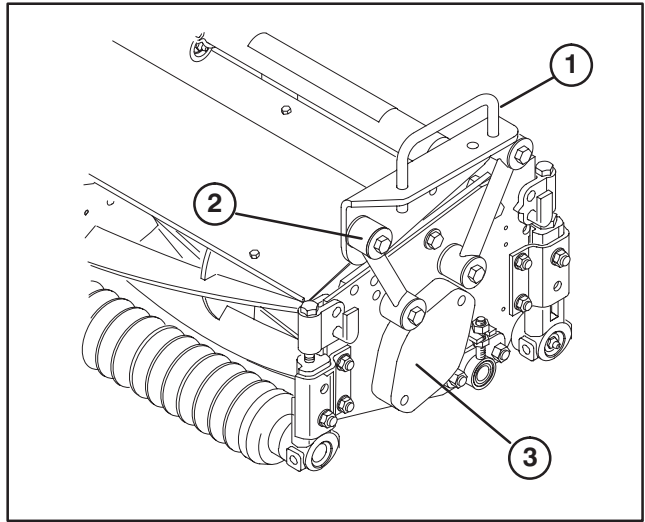
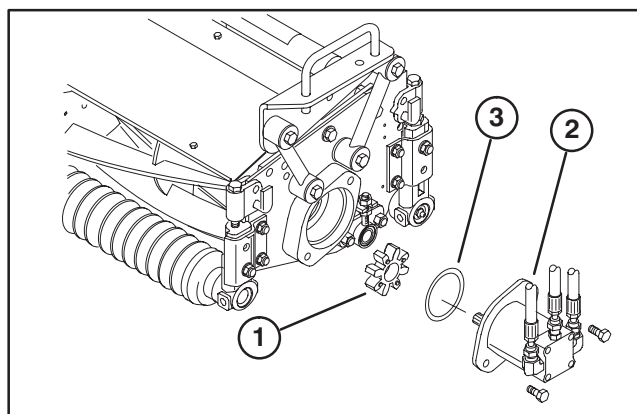

Figure 5
Figure 9
MOUNT CARRIER FRAMES TO CUTTING UNITS (Fig. 5)
3. Secure each mounting link to carrier frame with a 3/8-16 x 2-1/4" lg capscrew, (2) flatwashers and a locknut, as shown in figure 5. Position a washer on each side of link when mounting. Torque to 31 ft-lb.
(Fig. 9)
2. Remove bearing housing cover (Fig. 5) from inside end of right hand cutting unit. Install cover and gasket (supplied with cutting unit) on outside end. Locate spider coupling (Fig. 9) shipped in bearing housing.